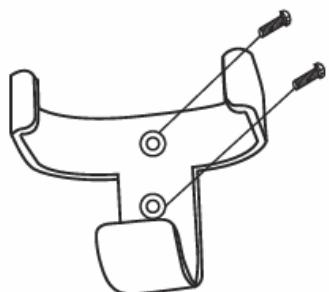

Fig. 12a
1. Locate a suitable wall to fix the remote control holder with the 2 screws. (Fig.12a).